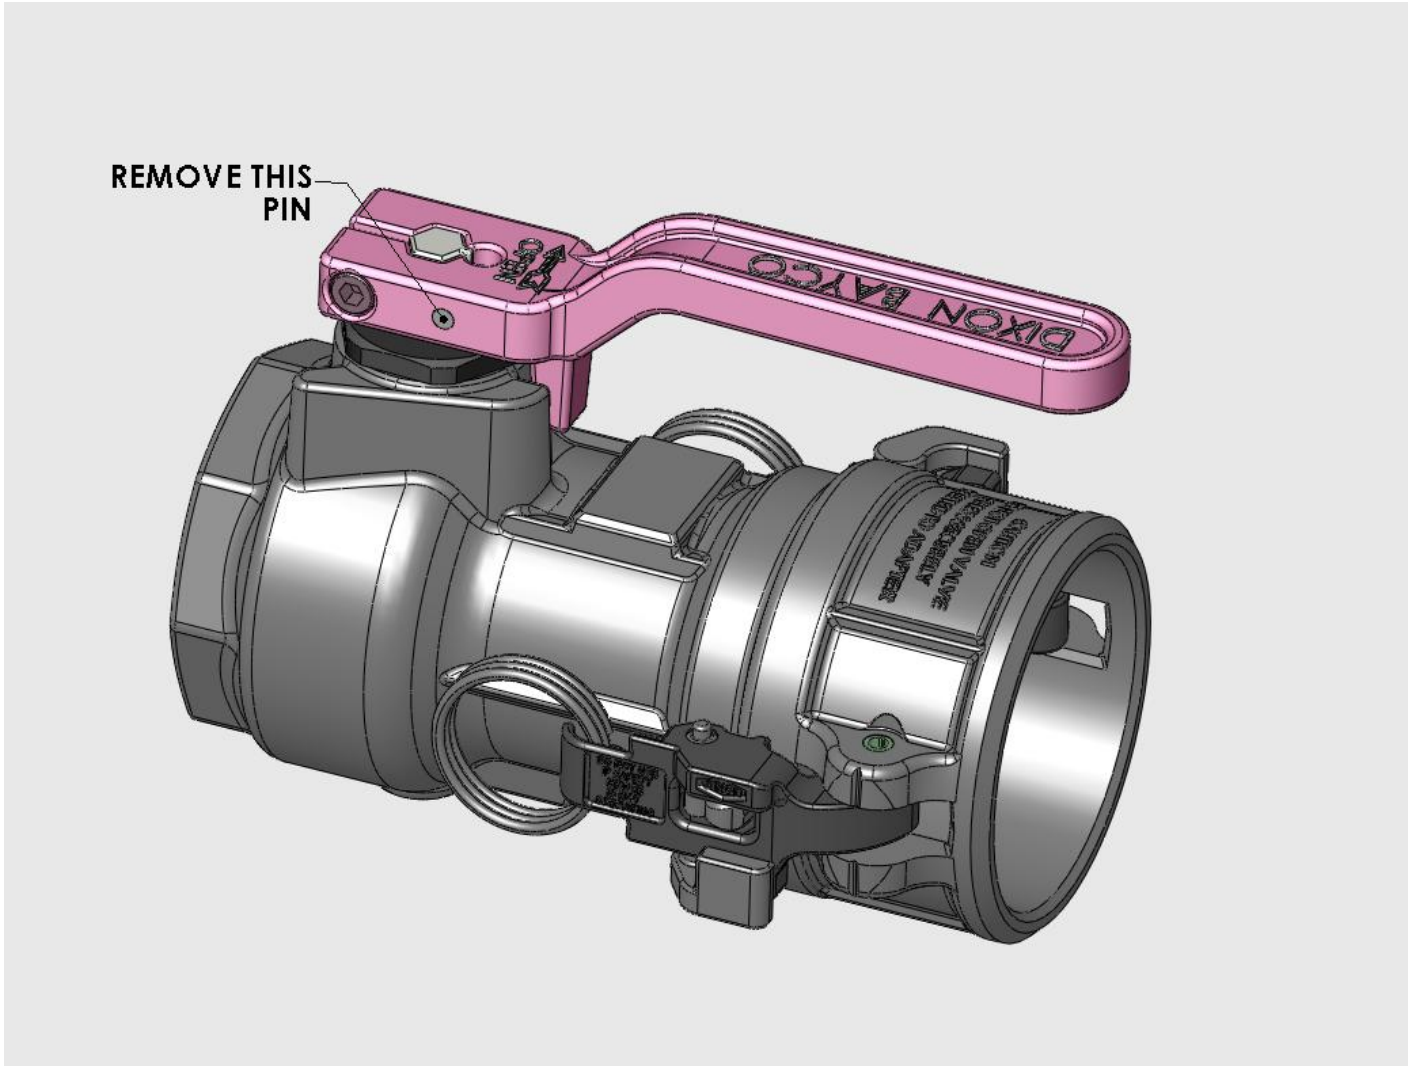

FIGURE 1
1. Remove the pin as indicated in figure 1 using a punch and hammer. This pin has 3 'barbs' on one end for retention. Be sure to strike the pin on the end that does not contain the 'barbs' or it will be far more difficult to remove the pin.